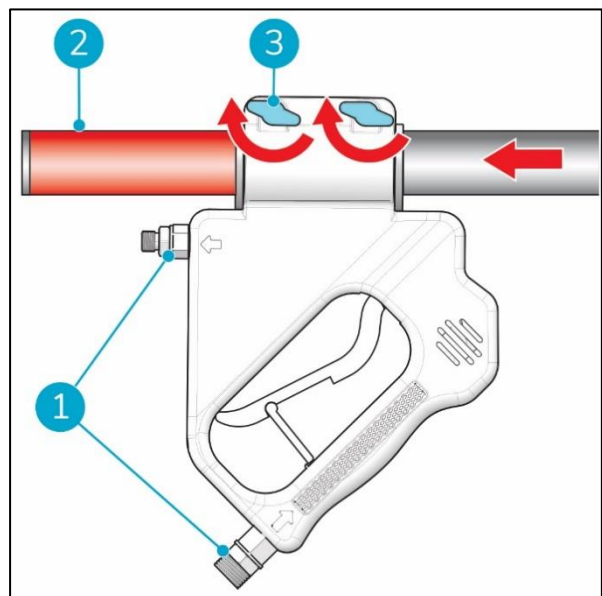

Figure 7
Hold the power handle in front of you with the connection holes (Figure 7, pos 1) on the left side.
3. Insert the selected tube into the power handle, from right to left. The red marking first (Figure 7, pos 2).
4. Turn the two wing screws (Figure 7, pos 3) clockwise to tighten them. Make sure that the complete red marking is visible (Figure 7, pos 2).